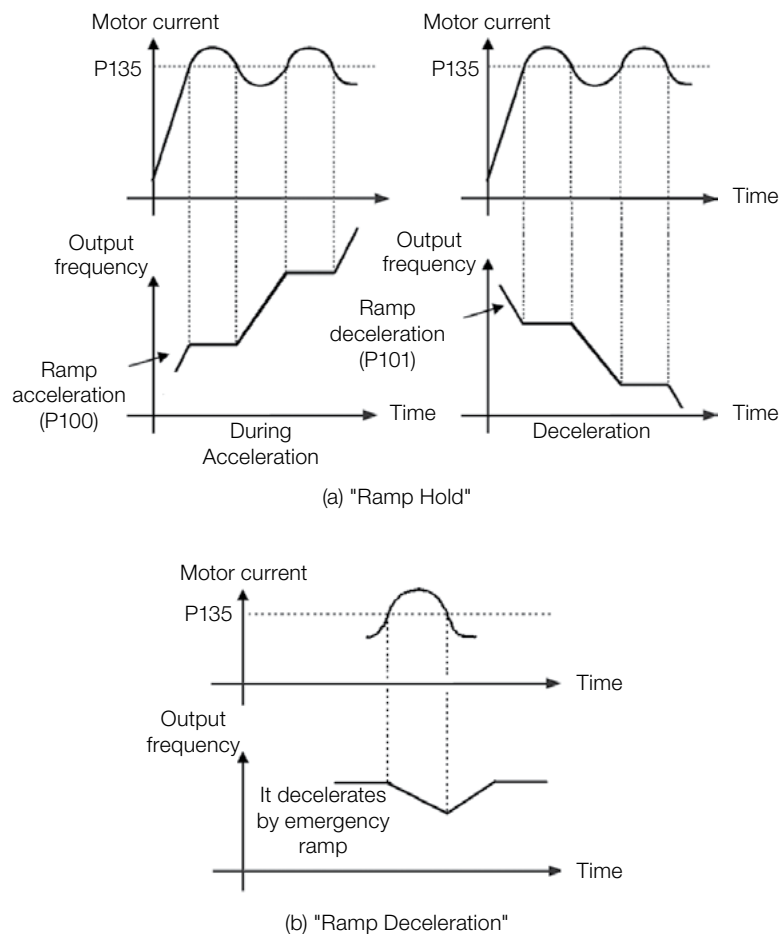

Figure 11.5: (a) and (b) Actuation modes of Current Limitation via P135
- Actuation: if the motor current exceeds the value set in P135 during acceleration or deceleration, the frequency will not be incremented (acceleration) or decremented (deceleration). When the motor current reaches a value below P135 the motor accelerates or decelerates again. Refer to Figure 11.5 on page 11-6;
- Actuation: if the motor current exceeds the value set in P135, a null value is forced for the frequency ramp input forcing the motor deceleration. When the motor current reaches a value below P135 the motor accelerates again. Look at Figure 11.5 on page 11-6.
Current level to activate the current limitation for the Ramp Hold and Decelerate Ramp modes, as per Figure 11.5 on page 11-6 (a) and (b), respectively. In order to disable the current limitation, you must set parameter $P135 > 1.9 \times I_{nom}$.